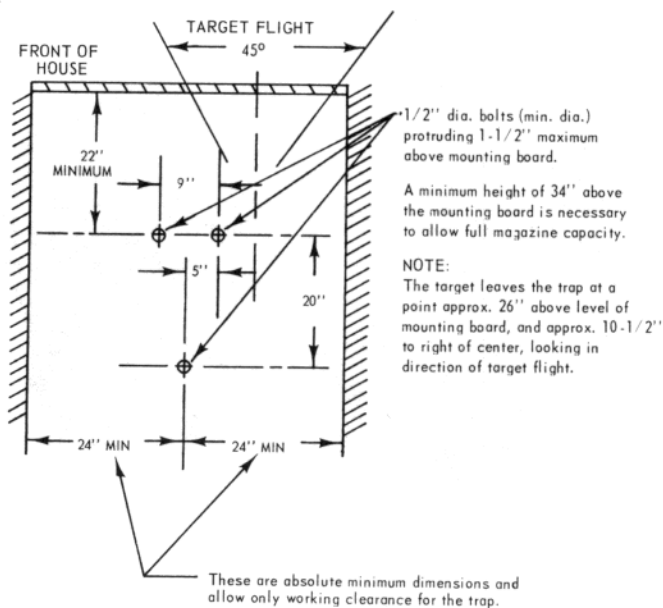

Figure 4 — Minimum layout
1. Attach the trap to a solid base by 3 bolts or lag screws of at least 1/2" diameter (see Figure 4). **NOTE:** Care must be taken to insure that the two front mounting bolts extending above the mounting feet do not interfere with the free motion of the front of the trap — particularly the damper on the right side and the mainspring on the left side.
Mounting must be level to insure that right-hand and left-hand targets will have the same elevation. Adequate room must be left around the front of the trap to allow free travel of the lower housing as well as the platform at any elevation angle (refer to Figure 4). Keep in mind that loading the magazine and periodic servicing will be made easier if clearance for a man is left around the trap.